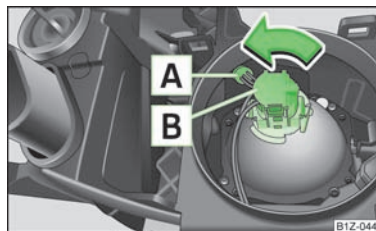

Fig. 165
- To replace the bulb for the **low beam**, turn the connector with the bulb **B** » Fig. 165 **in an anti-clockwise direction** up to the stop, remove.
- Remove the bulb for the front **parking light**, remove the holder **A** » Fig. 165.